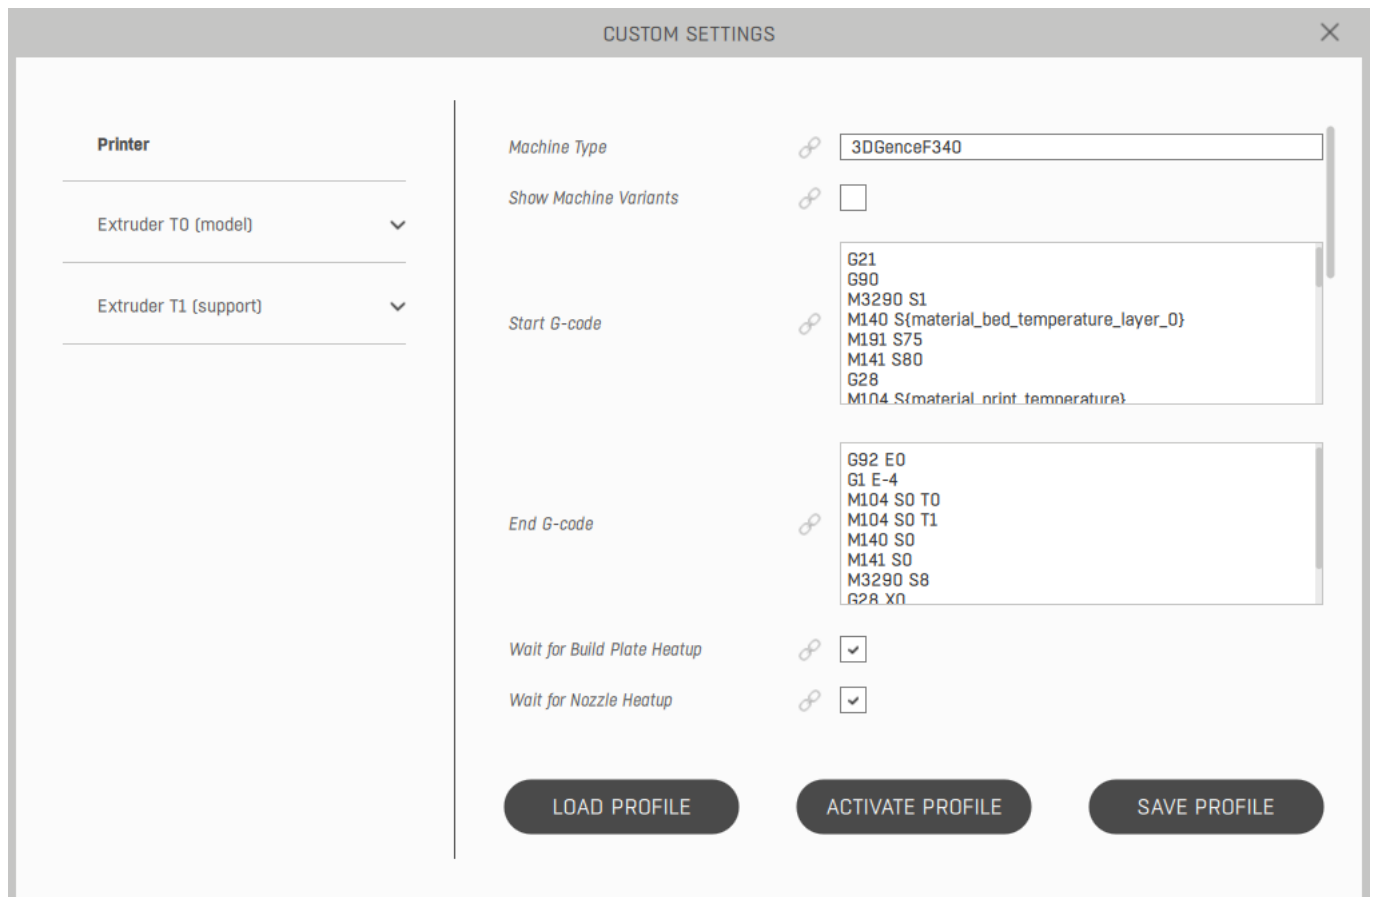

Fig. 31 Advance editing window
4. As soon as the profile is selected, a window appears where settings may be modified (Fig. 31).